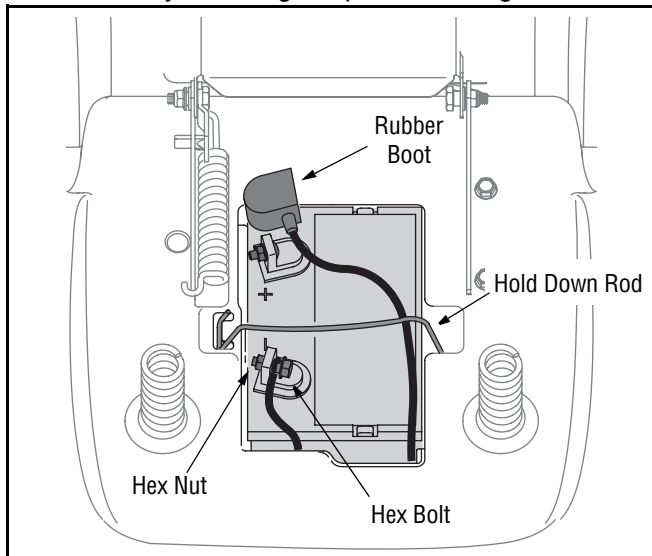

Figure 2
- Make certain the hold-down rod is in position over the battery, securing it in place. See Figure 2.